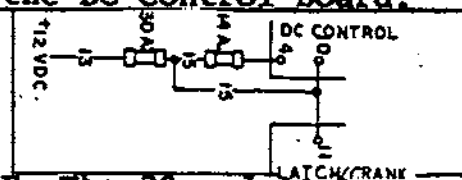

Figure 3.4-F. The 30 and 14 Ampere Fuse Circuits
3.4.8- VOLTAGE ADJUST POTENTIOMETER (Figure 3.4-A, 3.4-G)